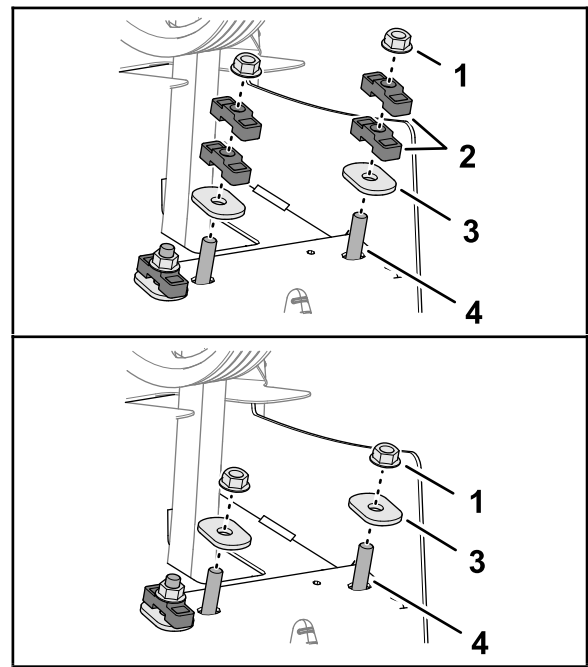

Figure 123
6. Secure the dampener shaft and spacers to the rear frame with the hardened oval washers and locknuts (Figure 123).